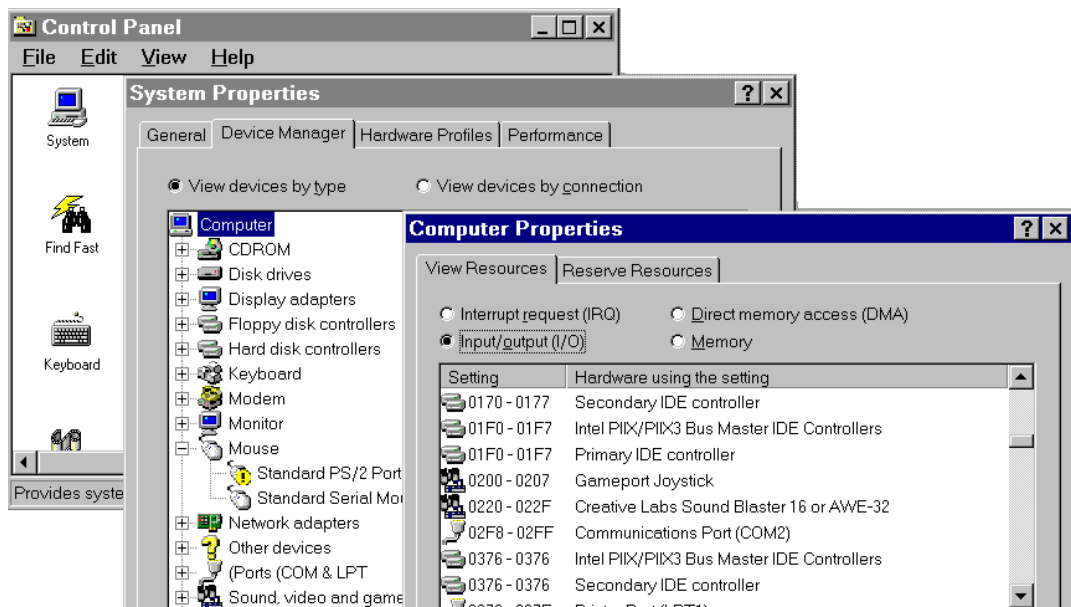

Figure 15
- Select Input/Output (I/O) to see which I/O addresses are in use. (Figure 15)